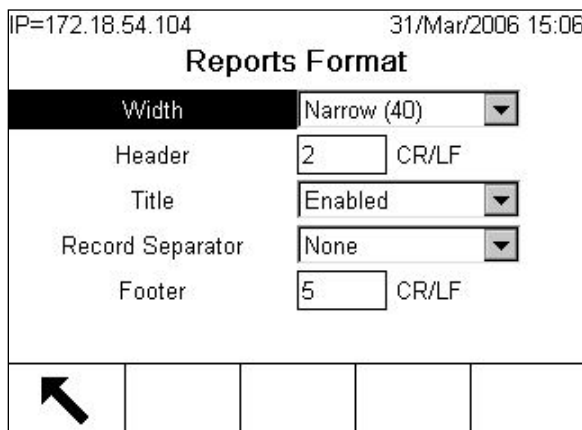

Figure C-48: Reports Format Screen
1. Press the SETUP softkey  and open **Setup > Communication > Reports**. The screen shown in Figure C-48 displays.